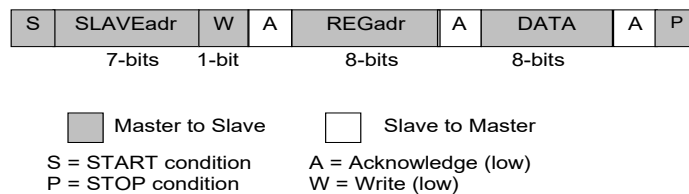

Figure 19: I²C Byte Write (SDA Line)
The I²C bus is monitored for a valid slave address whenever the interface is enabled. It responds immediately when it receives its own slave address. The acknowledge is done by pulling the SDA line low during the following clock cycle (white blocks marked with A in Figure 19 and Figure 20).
The protocol for a register write from master to slave consists of a START condition, a slave address with read/write bit, and the eight-bit register address followed by eight bits of data, terminated by a STOP condition. DA9121 responds to all bytes with acknowledge (A), see Figure 19.